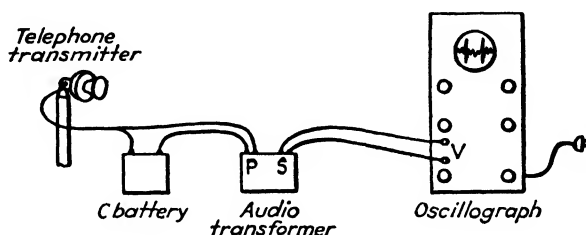

FIG. 94. How to show high and low frequencies.
The frequency of a wave can be shown by the circuit given in Fig. 94. The frequency is shown by the space between the loops
Step 1. Connect a carbon microphone, a C battery, and an audio or microphone transformer, as shown in Fig. 94. Connect the secondary of the transformer to the vertical posts on the oscilloscope.